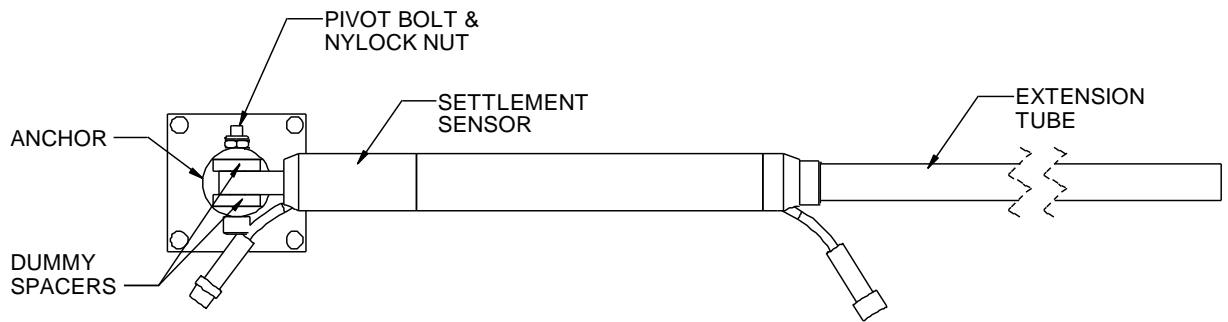

FIGURE 3-4 CONNECTING THE FIRST SETTLEMENT SENSOR TO THE ANCHOR PLATE
- 7 Slide the pivot bolt through the sensor, spacers, and anchor and secure with the Nylock nut (Figure 3-4).